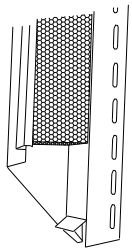

Figure 3
3. On the opposite ends of the lineal, measure 3 1/2" on the face from the end toward the J side and mark for a 45° angle. Cut the angle on the face being sure to leave the pocket of the lineal intact. Cut a 7/8" tab in the pocket. Measure and remove approximately 5/8" of the insert leg beyond the angle. Cut the foam back to this cut. (Figure 3)